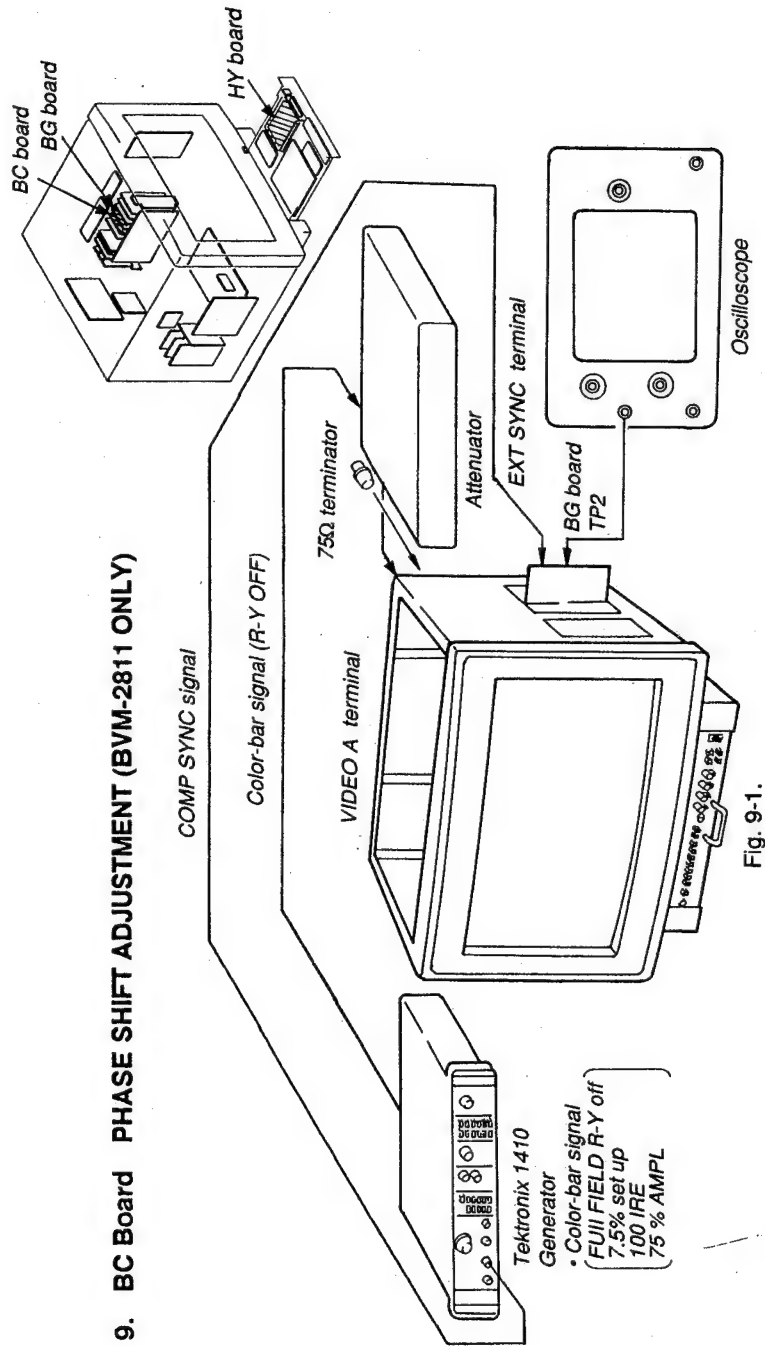

Fig. 9-1.
1. Complete the connection as shown in Fig. 9-1.